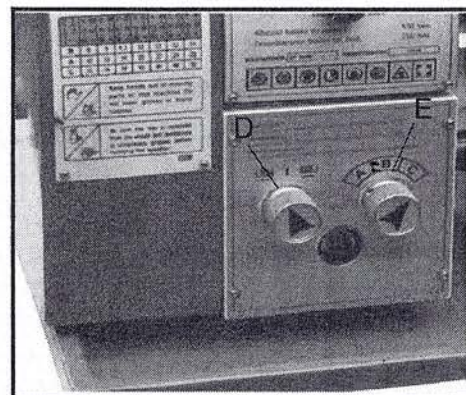

Fig. 12
4. Feed Direction Selector (D, Fig. 12)
5. Feed Rate Selector (E, Fig. 12)